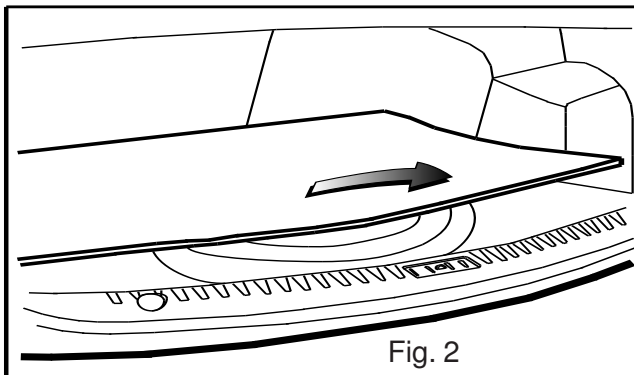

Fig. 2
4. Remove the trunk floor and place out of the way. (Fig. 2)